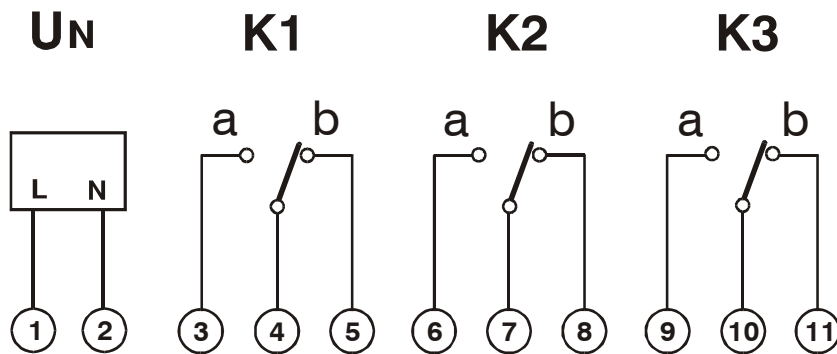

Figure 4 Wiring diagram-25A change over contacts
- Figure 4 Wiring diagram-25A change over contacts 5